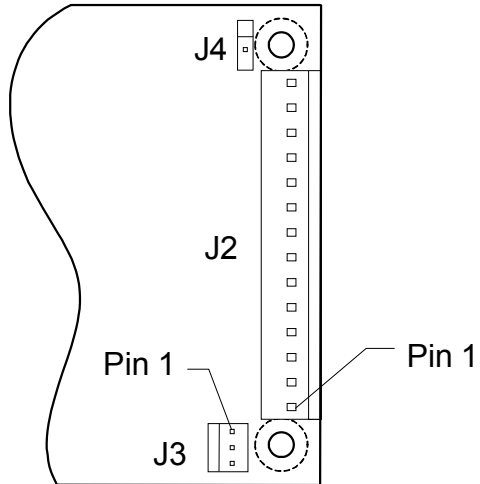

Figure 4-3 XL125/160-1DC, -8DC Output Connectors Layout
The pin-1 location differs amongst connector manufacturers. Sometimes pin-1 differs between the header (on the power supply) and the mating housing from the same manufacturer. Disregard the manufacturer's pin-1 location and follow only the pin-1 locations in Figure 4-3.
- Refer to Figure 4-3 for connector and pin-1 locations